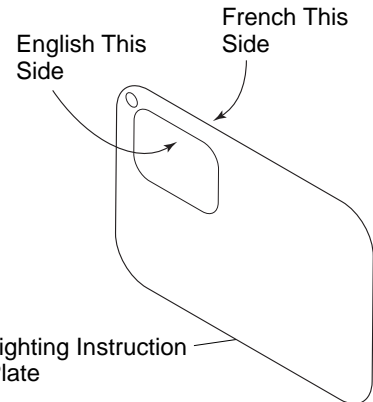

Figure 8 - Applying English and French Conversion Labels over Existing Certification Labels on Lighting Instruction Plate
- Apply the English and French conversion labels over the top of the existing certification labels (see Figure 8). Existing certification labels are located on the lighting instruction plate inside the gas valve compartment area. With permanent ink, print the previous model number on the label in the space provided (see Figure 9).